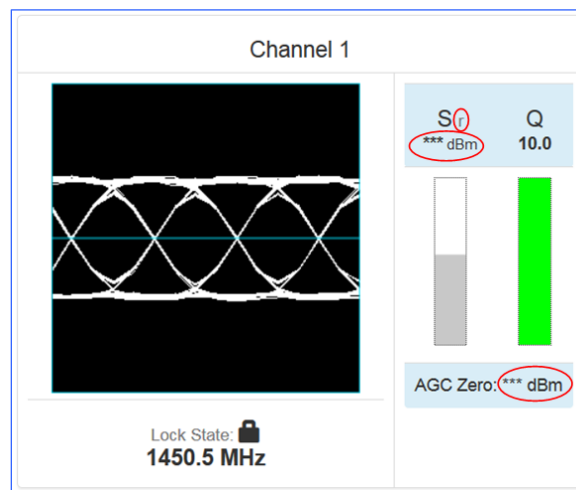

Figure 21: Signal Graph and Signal Indicators Windows, Zero AGC RSSI Display “Relative”
- “*** dBm” displayed (Figure 21) indicates AGC is not zeroed and the value is invalid